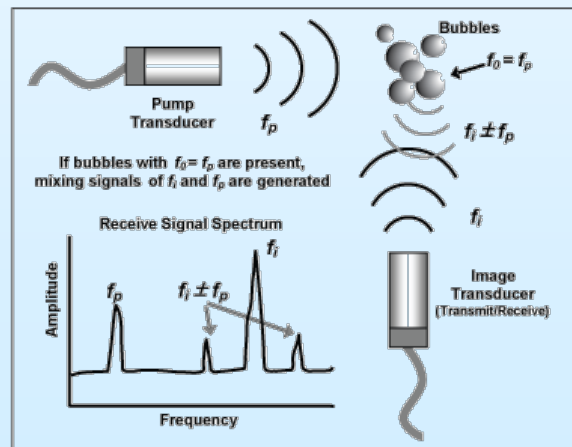

Figure 1. Dual-frequency ultrasound looks for the nonlinear mixing of two different ultrasound frequencies to detect and size resonating bubbles.
- Dual-Frequency Ultrasound (DFU) involves “pumping” bubbles at their resonant frequency and “imaging” the bubbles using a second frequency (Figure 1).